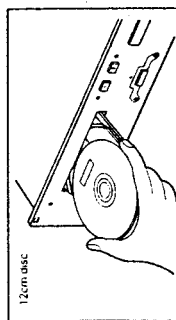
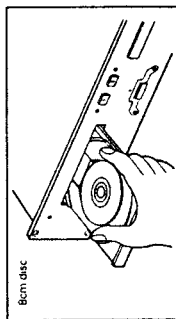

Figure 6
Figure 7
(1) Opening and Closing the Disc Holder and Loading Discs
- When using 12cm discs, place the disc in the outer tray guides (Figure 6), and when using 8cm discs, place them securely in the inner guides (Figure 7).